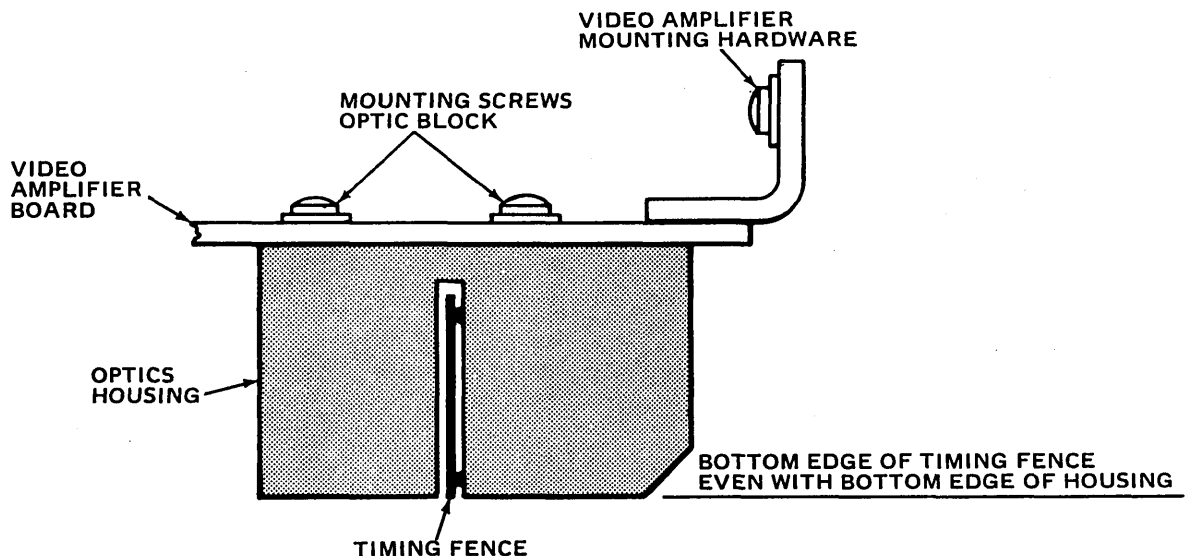

Figure 5-7. FENCE ADJUSTMENT AND OPTIC HOUSING
1. Centering of Timing Fence in Slot of Optical Pickup (Fig. 5-7)
- (a) Make sure fence is positioned in center of housing slot (Fig. 5-7).
- (b) If required, loosen mounting screws on video amplifier board (Fig. 5-7) and adjust optical housing so that fence is positioned in center line of the housing slot. Tighten screws.
- (c) Make sure that when the timing fence is positioned in the center line of the slot, the bottom of the fence is in the same plane with the bottom surface of the optical pickup housing (Fig. 5-7).
- (d) When conditions have been met at para. C.1.(a) through C.1.(c), tighten mounting screws and washers on video amplifier board (Fig. 5-7).